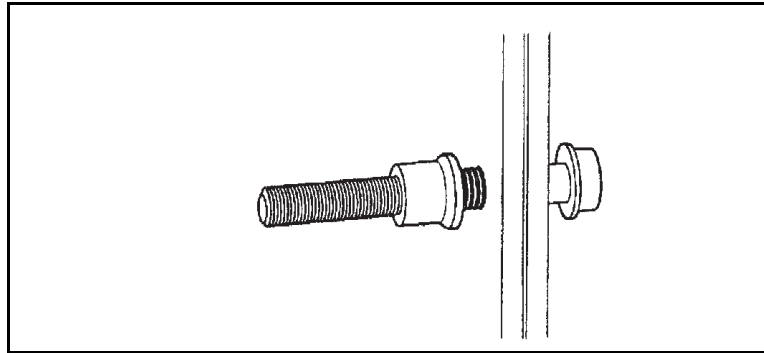

Figure 1.9 Place Collar Over Fastener Pintail
2. Place the collar over the fastener pintail (See Figure 1.9)